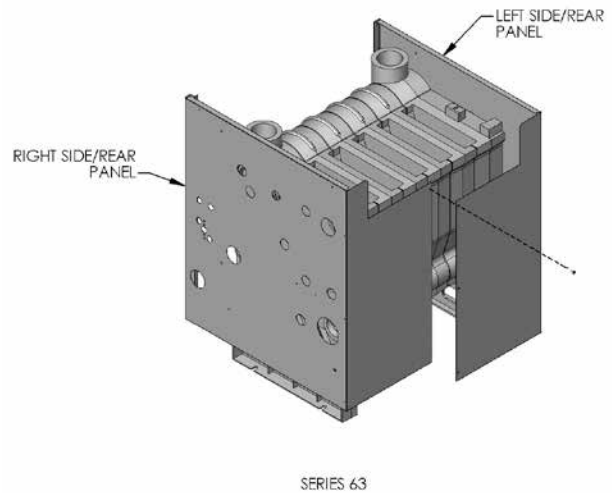

Figure 2.5: Jacket Assembly, Series 63™ Boilers
3. **Wrap-Around Jacket:** Bend the side jacket panels at the perforations to form the back of the jacket. The left side should overlap the right for proper attachment. Connect the two panels with three #10 x 1/2" sheet metal screws. See Figure 2.5.